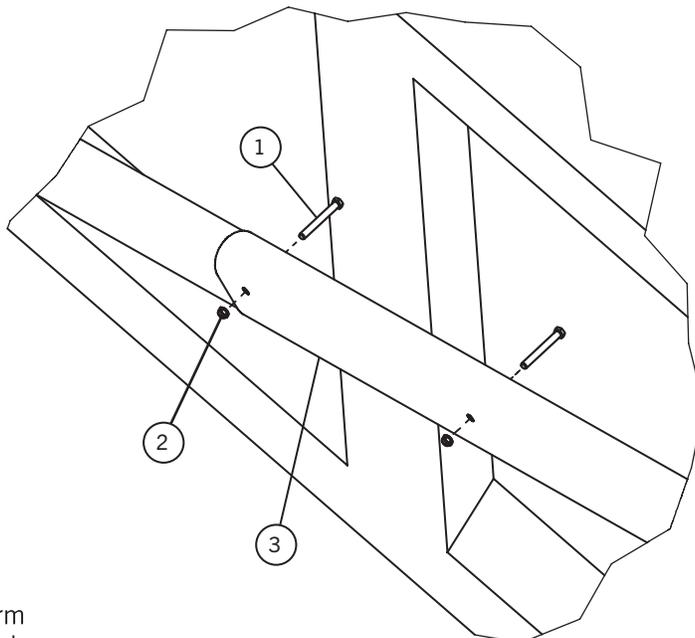

Figure 26-1
- 9c) **Figure 26-1.** Attach upper arm to pivot arm assembly using 3/8" hex bolts and lock nuts.